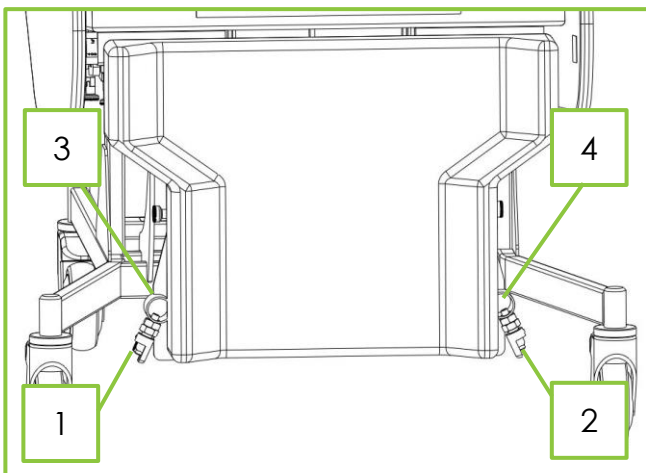
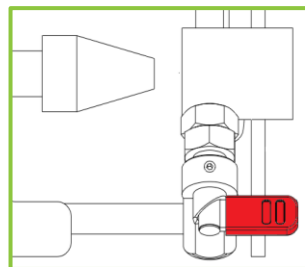
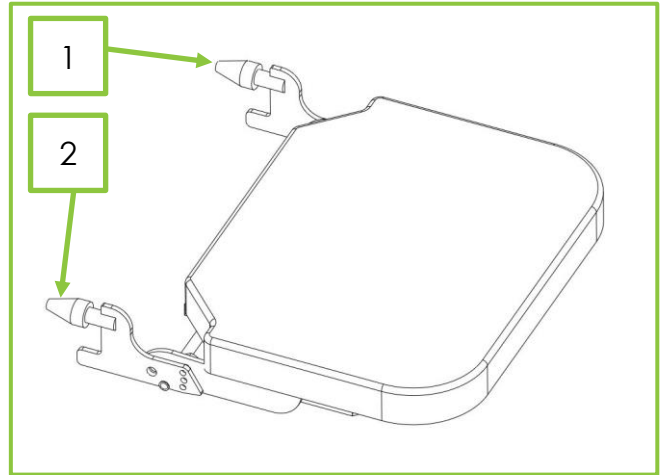

Figure 20
Figure 22 – Plunger Closed
Figure 23
1. Ensure that the plungers that secure the footplate (Fig 20, Items 1&2) are in the closed position (Fig 22).
2. Take the footplate (Fig 23) and insert the two tapered spigots (Fig 23, Items 1&2) into the two sockets either side of the footplate height adjustment frame (Fig 20, Items 3&4). Push the footplate into the tubes until the plungers latch with an audible click.
1. Locate the plungers that secure the footplate either side of the legrest, at the bottom of the footplate height adjustment frame (Fig 20, Items 1&2).